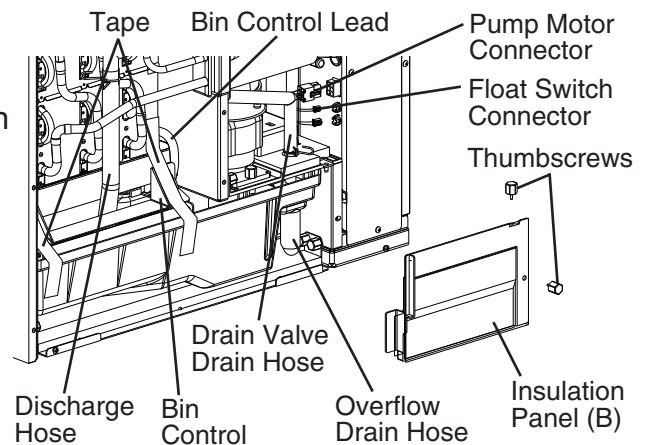

Fig. 3
- 1) Remove the 2 thumbscrews securing insulation panel (B), then remove insulation panel (B). See Fig. 3.